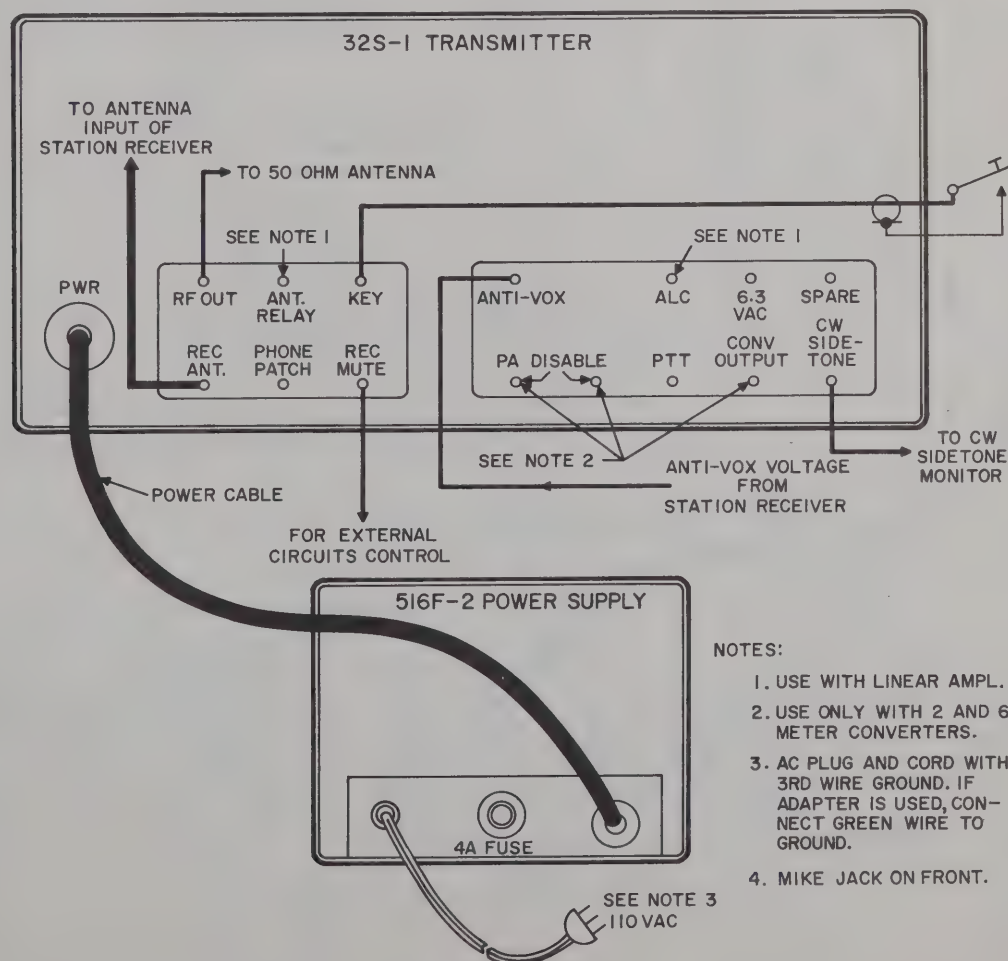

Figure 1-1. External Connections
Connect transmitter to receiver, power supply, and antenna as shown in figures 1-1, 1-2, or 1-3. The RG-58C/U cables may be identified by their slightly
larger diameter and 2-inch shorter length. Use the r-f cables where shown. The smaller microphone cables are satisfactory for a-f or control functions. Connect microphone or key as shown in figure 1-1. The 32S-1 is connected for use with a high-impedance phone patch such as the one in the 312B-4 Station Control. If phone patch operation using low-impedance phone patch, such as Collins 189A-2, is desired, modify 32S-1 as follows: Disconnect the shielded wire (white with brown tracer) from the MIC jack, and connect the center conductor to pin 8 of V1. Connect its shield to the center terminal on the terminal strip mounted near V1, pin 9. Check for continuity between PHONE PATCH jack J3 and pin 8 of V1. When using 516F-1 Power Supply with 32S-1, remove R114 from pa screens to ground and connect a shorting wire across R113 in series with screen lead.
a. Connect 32S-1 and 75S-1 as shown in figure 1-1 or 1-2.
b. Set FREQ CONTROL (1) on 32S-1 to REC VFO position.
c. Set OFF-STBY-OPR-CAL switch (1) on 75S-1 to STBY position.
d. Set both BAND selectors to same desired band and both EMISSION switches (8) to same position (either USB, LSB, or CW).